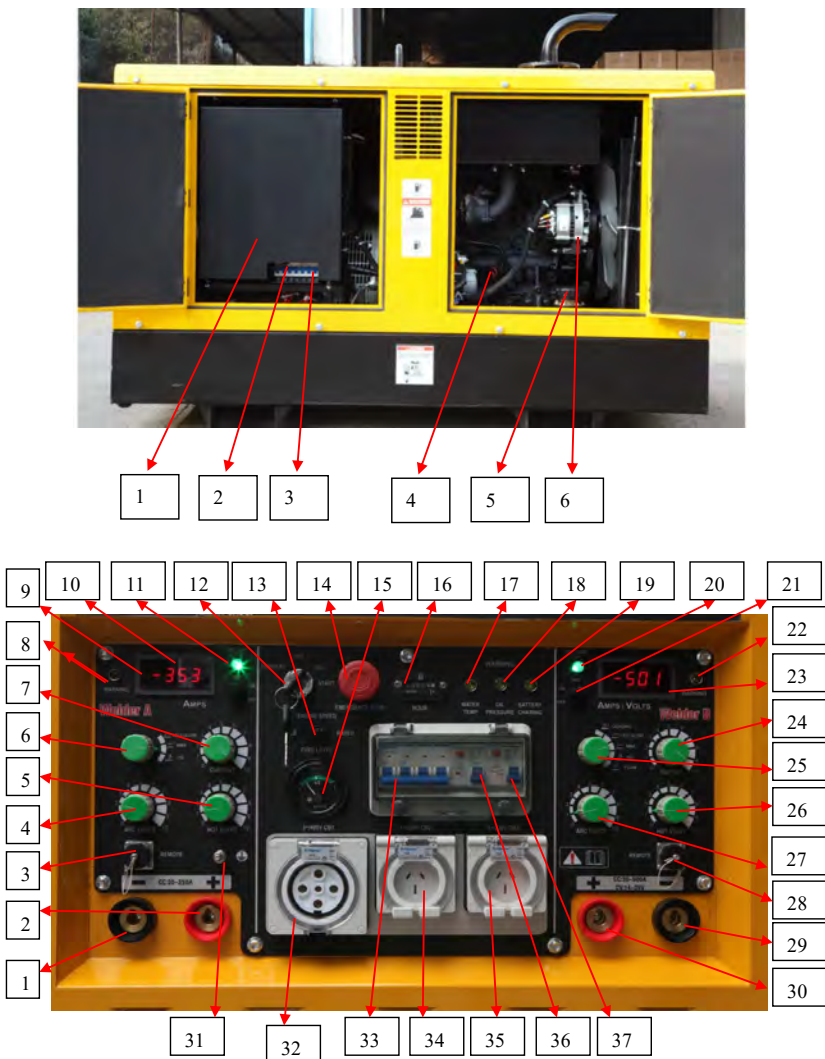

Fig. 9 Power Control Box
6.3.1 Description of Generator Output Power; refer to Fig. 9.
6.3.1.1 The generator power output shall be distributed through the Main Power Switch (2, see figure 4) to the welding power supply and the auxiliary power supply; if the Main Power Switch (2, figure 4) is disconnected, both the welding power supply and the auxiliary power supply shall give no output of power. After the engine achieves normal startup, close the Main Power Switch (2, figure 4), closing the Welding Power Switch (3, figure 4), the digital meter on the front panel shall turn on indicating the welding current and voltage, and then adjust the current and voltage to the desired values for a welding operation. Turn off the Welding Power Switch (3), the welding power supply shall stop. Then close the master power switch (33, figure 9) on the front control panel, 3~ 400V AC receptacle (32, figure 9) get power, then close the single phase circuit breaker (36, 37, see figure 9), 1~230V receptacle (34, 35 figure 9) get power. Shut off the master switch (33), No any AC auxiliary power output.
6.3.1.2 The single phase circuit breaker Switch (36/37 figure 9) is equipped with leakage protection device (RCD), which is very important to the safety of the users of the auxiliary power supply. The leakage protection switch is provided with a test button; after engine starts up normally, press the “T” test button on the switch for a test every other month, where switch should automatically pop to turn off the power supply, indicating the normal function of the leakage protection device; if pressing the test button for leakage test RCD does not turn off the power supply, it’s proposed to replace the RCD with a new one.
6.3.1.4 A grounding pole is provided on the front panel identified with a grounding symbol (see Item 31 as shown in Fig.9); the grounding bolt is connected together with the metal chassis and the generator neutral pole and the whole equipment casing; please follow the local laws and regulations for proper connections.